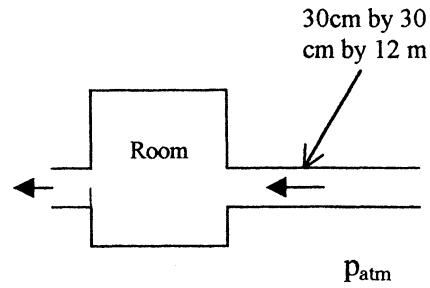

Fig. P6.92
6.92 A large room uses a fan to draw in atmospheric air at 20°C through a 30 cm by 30 cm commercial-steel duct 12 m long, as in Fig. P6.92. Estimate (a) the air flow rate in m³/hr if the room pressure is 10 Pa vacuum; and (b) the room pressure if the flow rate is 1200 m³/hr. Neglect minor losses.